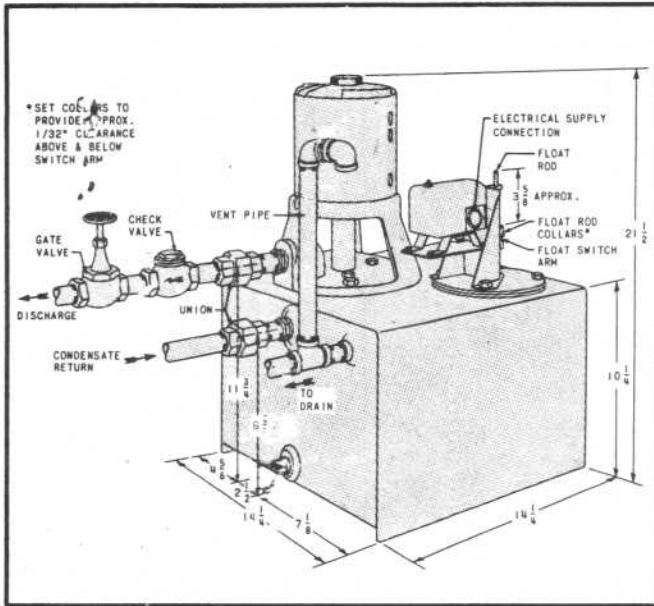

Figure 23A - Details of Condensate Pump, No. 203275
- b. VENT LINE AND OVERFLOW - A full size pipe nipple and tee should be connected into the vent connection on the side of the receiver which is slightly lower than the condensate inlet. The side of the tee should point up with a short length of pipe threaded into it and a "U" type fitting threaded on to the top of this pipe. An overflow pipe, which can be reduced to 3/8" or 1/2" O.D. tubing, should be run from the end of the tee to a drain below the level of the opening in the side of the receiver. (See Figures 23A and 23B)